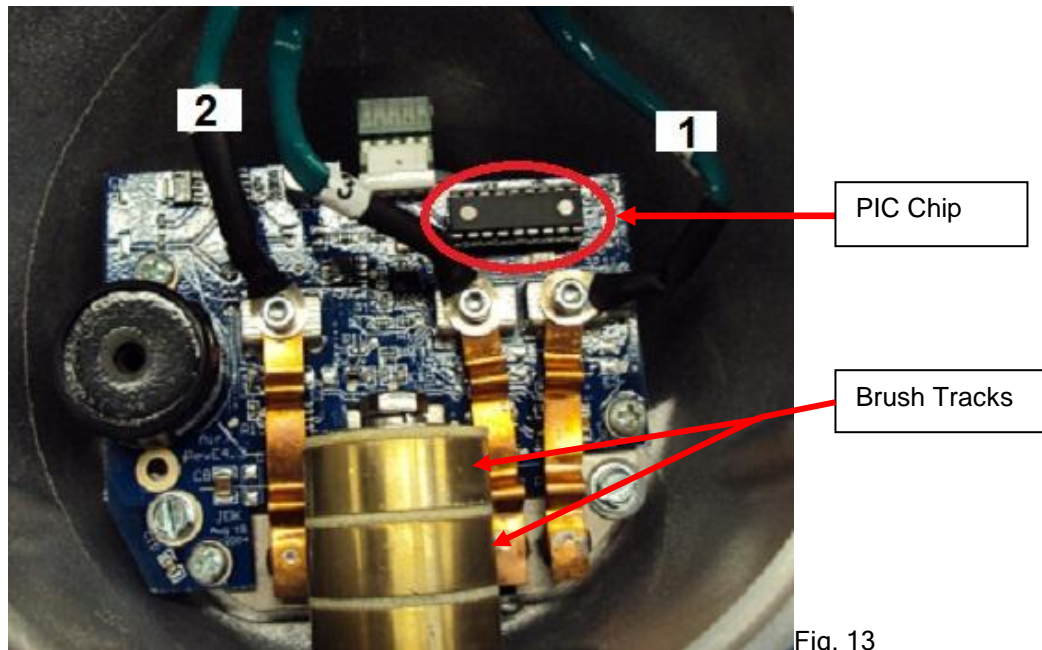

Fig. 13
40. Rotate the yaw shaft. Take a close look at each of the brushes to make sure they are properly contacting the appropriate slip ring. Make sure each spring is properly seated in the rectifier slot and that the brush wires are not being pinched. There will be fresh "brush tracks" on the slip rings. See Fig. 13. **Also, make sure the slip rings are vertically aligned.**
43. Orient the body as described in step 30. Using the three, small socket-head screws, connect the wires from the new alternator assembly in the following order from left to right on the circuit board: **#2 - Left Terminal, #3 - Center Terminal, #1 - Right Terminal.** Divert wires #3 & #1 around the PIC Chip. **Do Not** run the wires over the PIC Chip, this can cause malfunction. See Fig. 13 below for clarity. It is important that the three ring terminals are parallel and cannot contact one another once tightened. Torque spec for these bolts is 10 in-lbs.